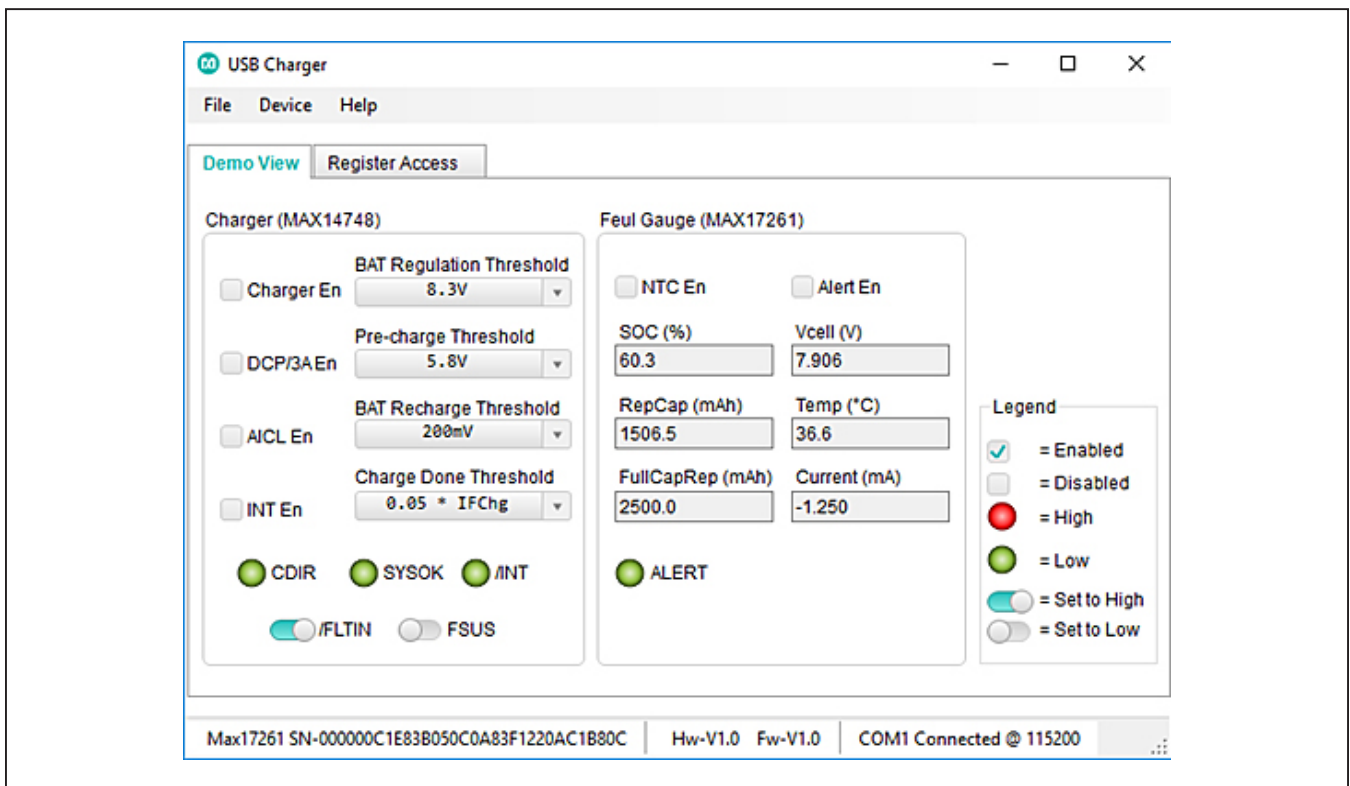

Figure 6. Demo View window.
5) The **Demo View** window pops up (Figure 6). MAX-REFDES1260 has two main devices; the charger MAX14748 and fuel gauge MAX17261. The **Demo View** window includes the main control functions and displays the device status: